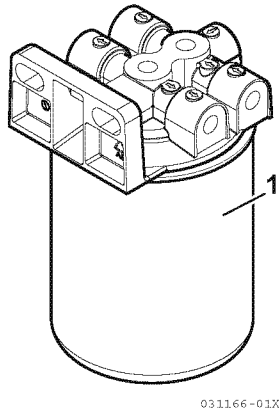

Figure 4-5
3. Unscrew and remove filter cartridge (1, Figure 4-5).